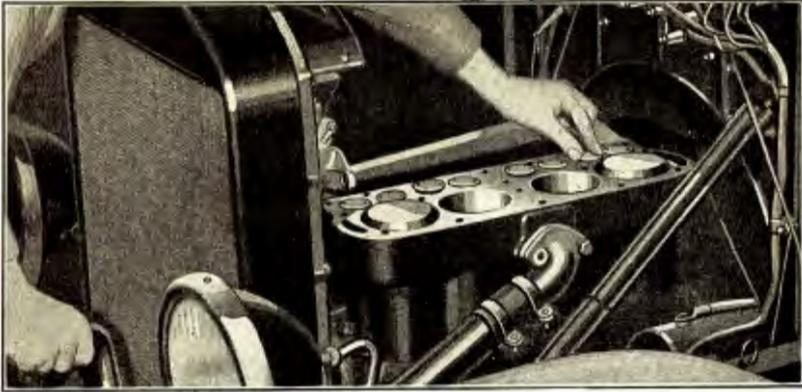

Fig. 174
- 264** The method of determining when the valves open and close is as follows: With the spring assembled, close the valve. When it is closed, hold it with the fingers and twist back and forth on head of valve while slowly cranking engine (See Fig. 174). When checking the opening and closing of valves with engine removed from car a turning bar is used to turn crankshaft. The instant the valve will turn it has started to open. In the same way the valve may be checked for closing, the valve turning until it has seated.